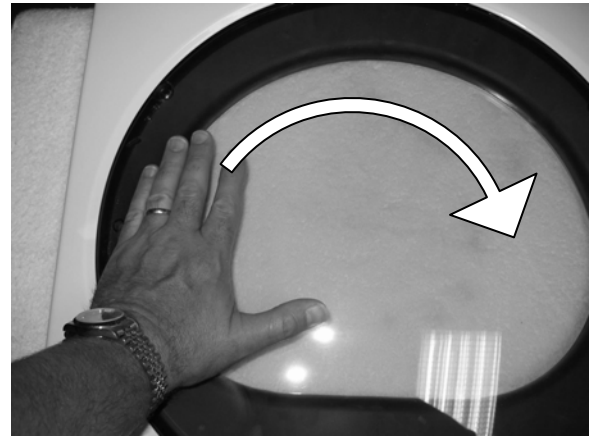

Figure 11
11. Apply moderate pressure downward and rotate lens 180 degrees so holes in lens again align with holes in transition ring. (Figure 11)
12. Remove four (4) screws from side of door opposite of where hinge was mounted.
13. Install four (4) screws securing hinge to door assembly in the new location, take note to place hinge in correct orientation.
14. Install four (4) screws into holes that had secured the hinge